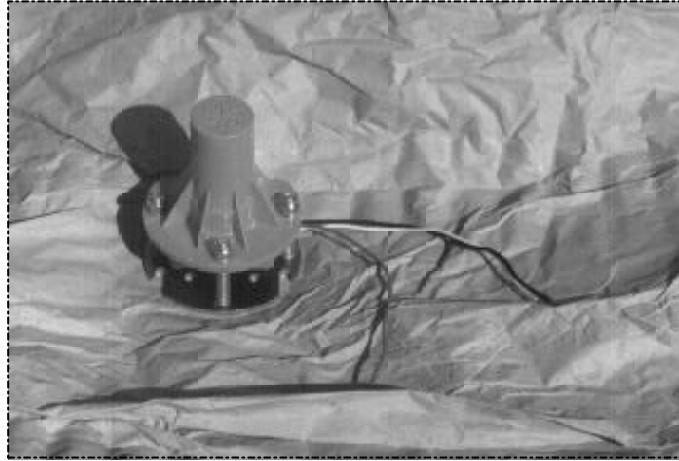

Figure 4-7: Tilt Sensor
4.7 Switch Adjustments (Figure 4-7 & 4-8)